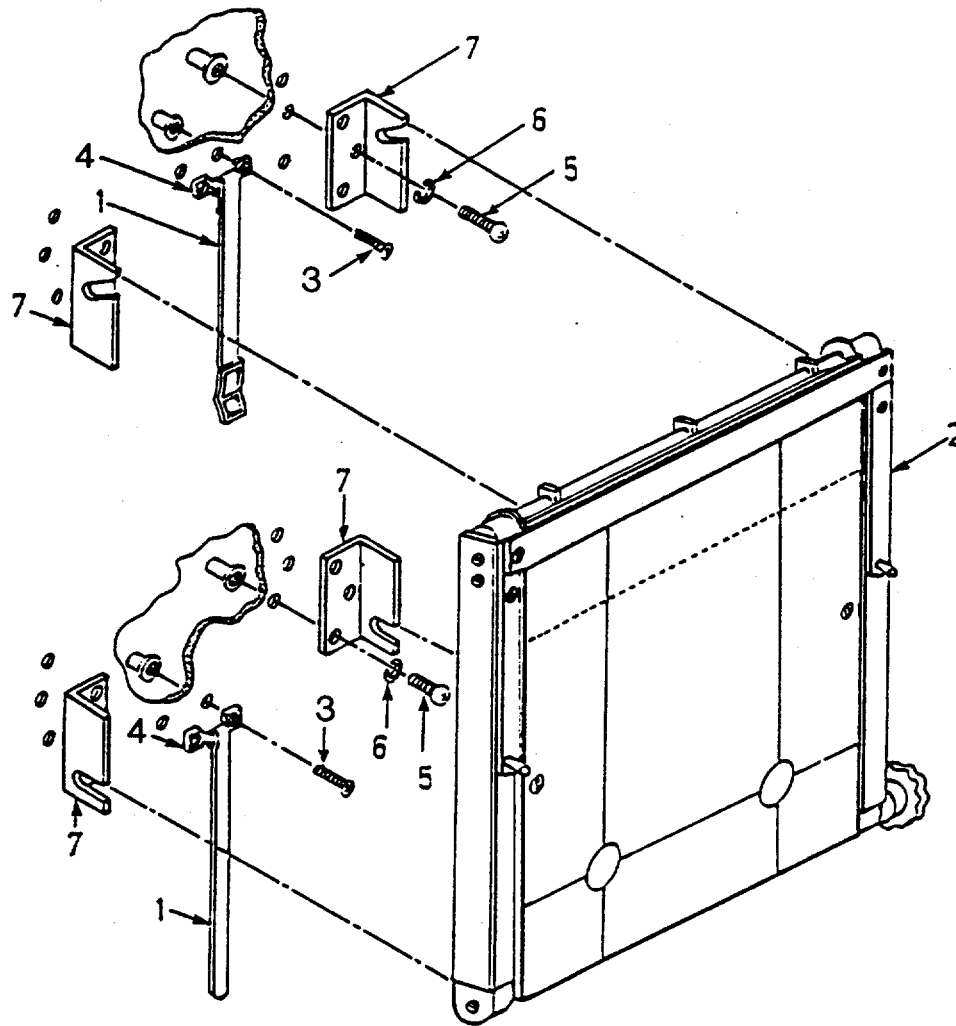

Figure 4-58. Composing Table Assembly
- a. Inspect. (See Figure 4-58.)
- (1) Check composing table on darkroom front interior wall for completeness and security of mounting.
- (2) Check composing table for damages or broken or missing components.
- b. Replace. (See Figure 4-58.)
- (1) Unlatch retaining strap (1) from composing table.
- (2) Remove composing table (2) from storage mounting brackets.
b. Replace. - Continued. (See Figure 4-58.)